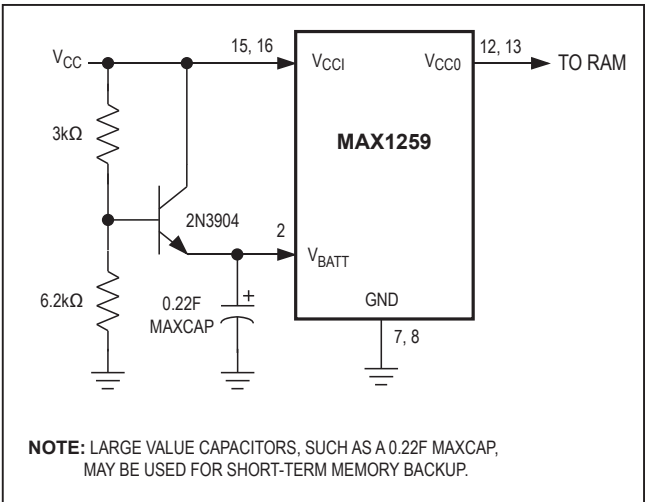

Figure 3. Using a MAXCAP as a Backup Battery
**Note:** With adequate filtering, the MAX1259 need only supply the average current drawn by the CMOS RAM. Many RAM data sheets specify a 75mA maximum supply current, but this peak current spike lasts only 100ns. If the sum of the peak currents is greater than 250mA, a capacitor placed on the VCCO output can supply the high instantaneous current, while VCCO need only supply the average current, which is much less. The MAX1259 operates with battery voltages from 2.5V to 3.7V. High-value capacitors—either standard electrolytic or farad-sized, double-layer capacitors—can also be used for short-term memory backup (Figure 3).